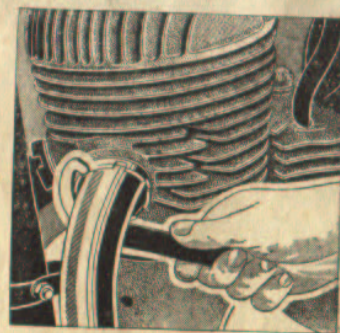

Fig. 40 - Disconnecting the exhaust pipe - 250 c. c.
- a) 250 c. c. engine: Remove the dual seat, disconnect the fuel pipe and remove the fuel tank - see Part III, para 14 (be careful of the spring washer). Disconnect the sparking plug lead and remove the ignition coil. Disconnect the exhaust pipe (see Fig. 40), unscrew the four nuts holding the cylinder head to the cylinder barrel and remove